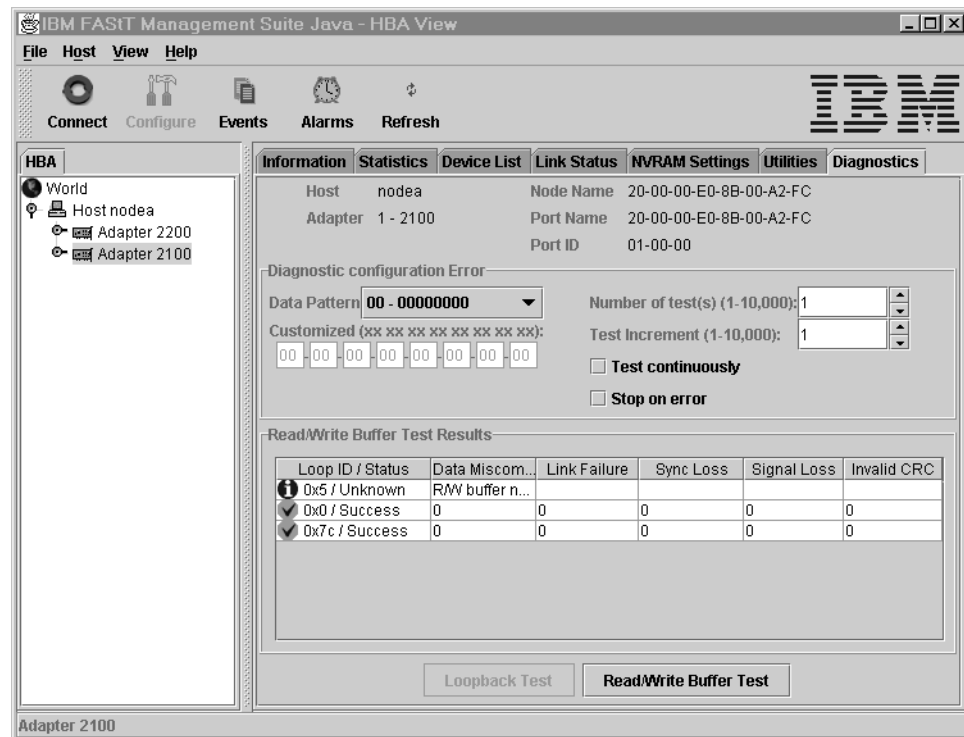

Figure 88. Read/Writer Buffer Test Results section of the Diagnostics panel
**Read/Write Buffer Test Results:** The Read/Write Buffer Test Results section provides the following information (see Figure 88 on page 214):